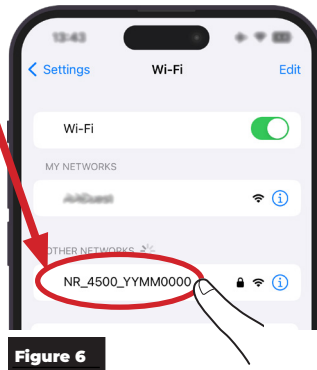

Figure 6
- Open the WiFi or Networks application on the smart device and find the associated operator network (beginning with NR_4500_, followed by the operator’s SSID). (Figure 6)